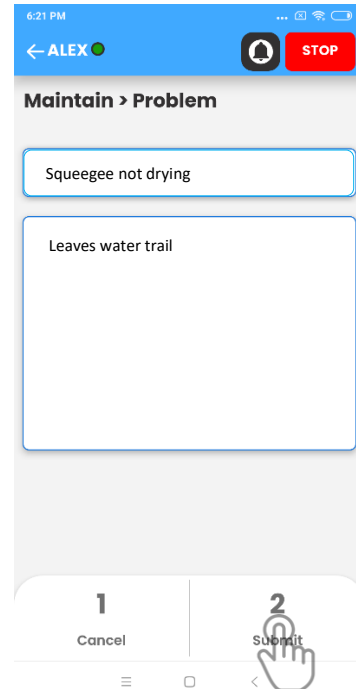

Fig. 5
2. The Maintain page can also be used to report new issues with using the R3 SCRUB by clicking on the 'Problem' button and providing a description of the issue (Fig. 5).